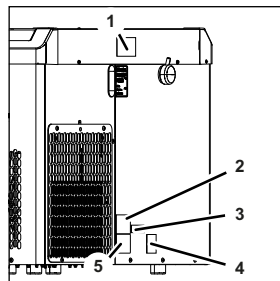

Fig. 11
- Fig. 11/1 Dangerous voltage warning sign
- Fig. 11/2 Unit type plate
- Fig. 11/3 Python connection warning sign
- Fig. 11/4 Refrigerant warning sign
- Fig. 11/5 Carbonator type plate